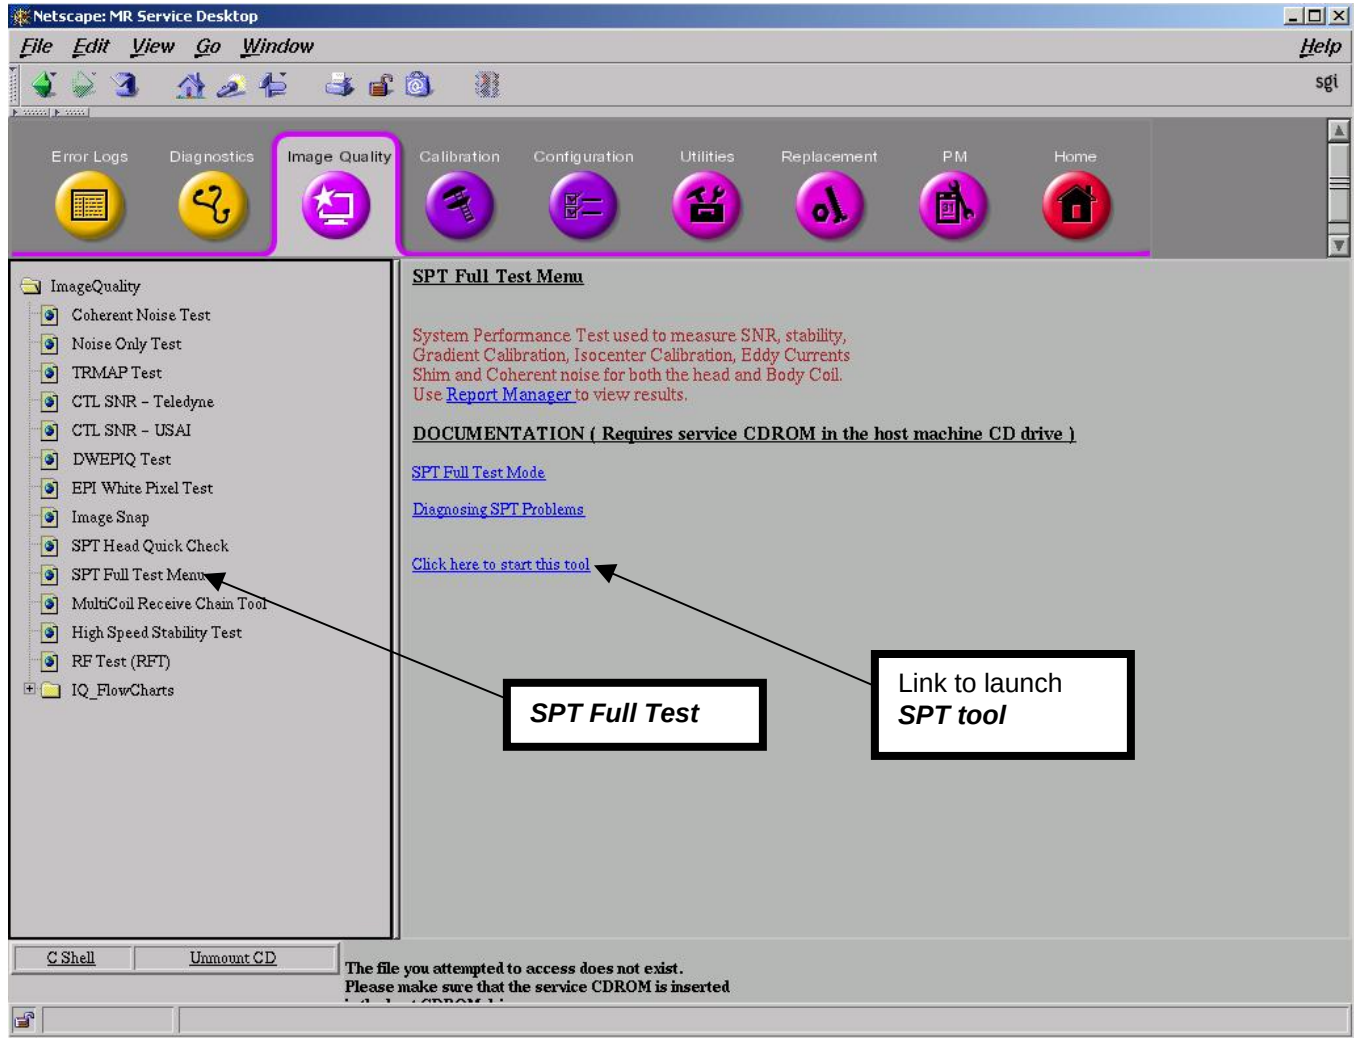

Figure 2
4. Click on the "SPT Full Test Menu" found in the Image Quality folder in the left column of the screen. See Figure 2.
5. Click on this link: "Click here to start this tool" (shown in Figure 2) to launch the SPT tool.